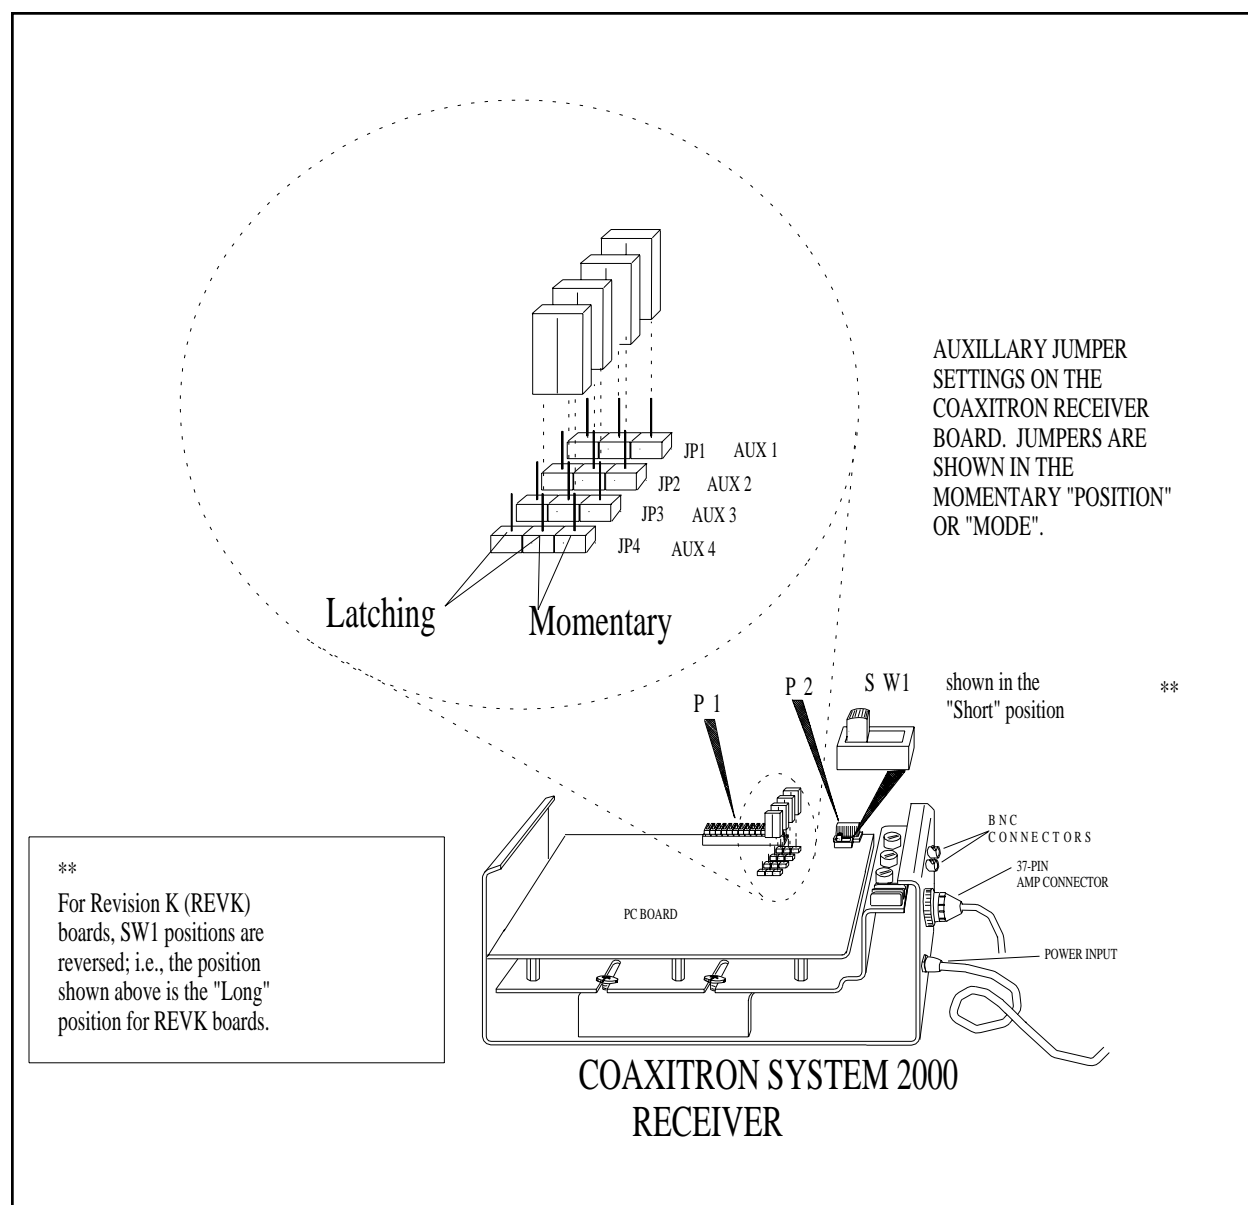

Figure 15. Jumper Settings, Receiver/Driver Mother Board
The Coaxitron receiver is capable of operating up to four (4) remotely activated auxiliary functions. Each auxiliary output may be individually converted at the receiver for momentary or latching operation. Refer to Figure 15 for the desired jumper location. When in the latching mode, activating the same AUX function will toggle the function from on to off.